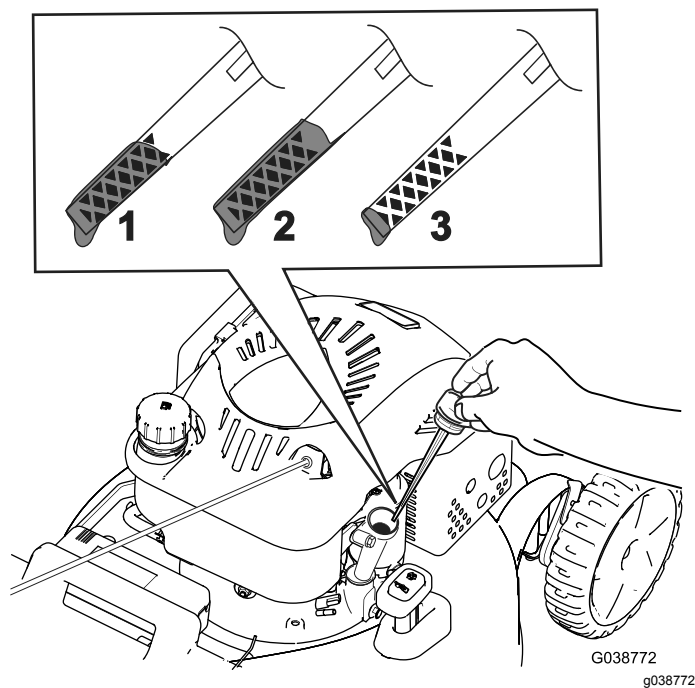

Figure 11
2. Remove the dipstick by rotating the cap counterclockwise and pulling it out (Figure 11).
5. Read the oil level on the dipstick (Figure 11).
- If the oil level on the dipstick is too low (Figure 11), carefully pour a small amount of SAE 30 or SAE 10W-30 detergent oil into the oil-fill tube, wait 3 minutes, and repeat steps 3 through 5 until the oil on the dipstick is at the correct level.
- If the oil level on the dipstick is too high (Figure 11), drain the excess oil until the oil on the dipstick is at the correct level; refer to Changing the Engine Oil \(page 17\).